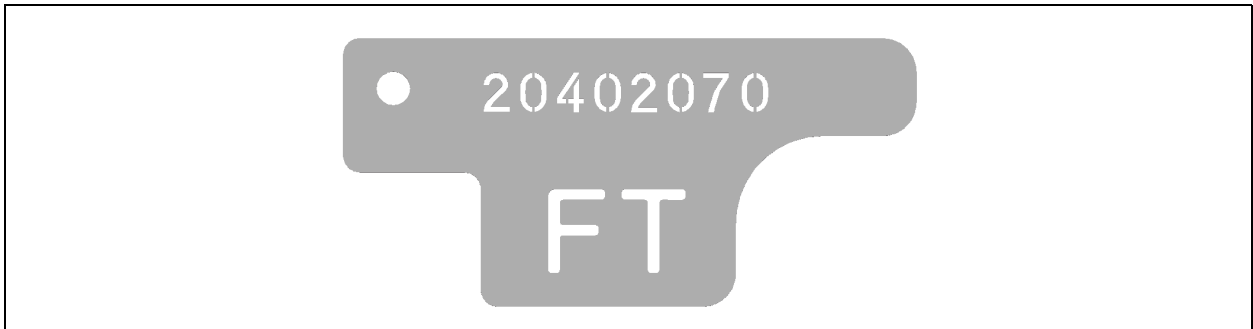

Fig. 29 - Adjusting jig
**Adjustment gauge, see fig. 29.**